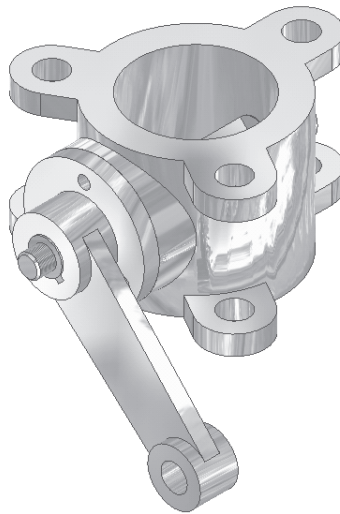

Figure 8-42 Assembly, after assembling the Arm
10. Enter the angle as **-135** in the **Angle** edit box. Choose **Apply** to apply the constraint and then **Cancel** to close the dialog box. Click on the - sign on the left of the Arm to close the folders. The assembly, after assembling the Arm, is shown in Figure 8-42.